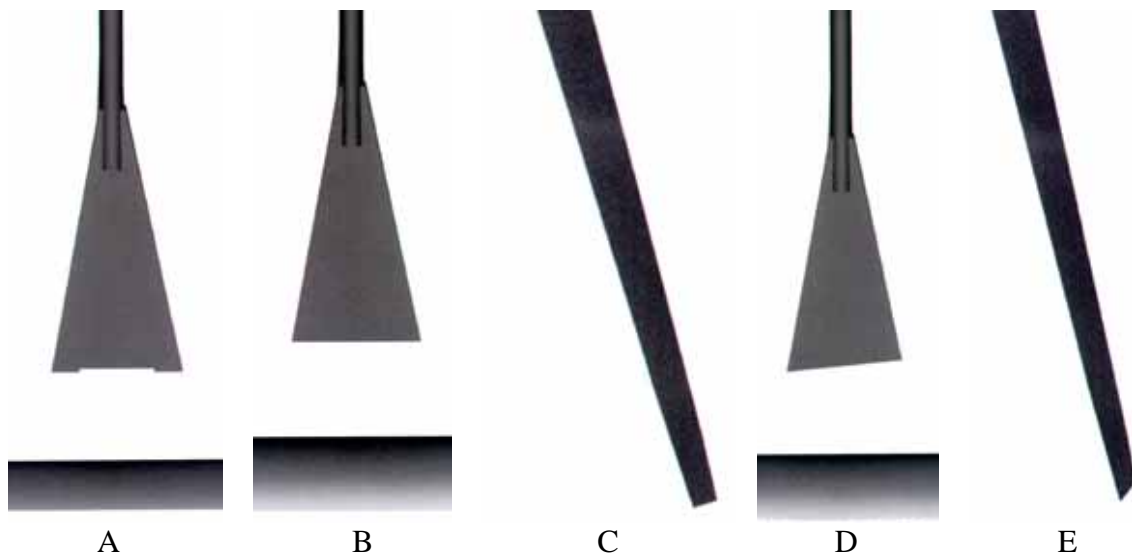

Figure 10: Showing **A**-Wear on the count lever, **B & C**- correct shape of paddle edge after filing, **D & E**- incorrect shape of paddle edge after filing.
Count Lever (C) and Count Wheel (K): The paddle end of the count lever (C) will show varying degrees of wear depending on the type of movement. In all cases, however, the wear should be filed out. A combination of the pounding action of the lever and the motion of the count wheel (K) as it is in contact with the lever, will cause a notch to be cut in the lower knife-edge of the paddle. Care should be taken to maintain the correct shape of the paddle edge. (See figure 10.) Watch for burrs on the outer edges of the tip of the paddle following the filing process. The count wheel (K) may show some wear along the rim and in the stop notches but this should be negligible and more of a polished area than groove. Generally, the count wheel (K) can be left as is provided the wheel is true and there are no bent teeth.